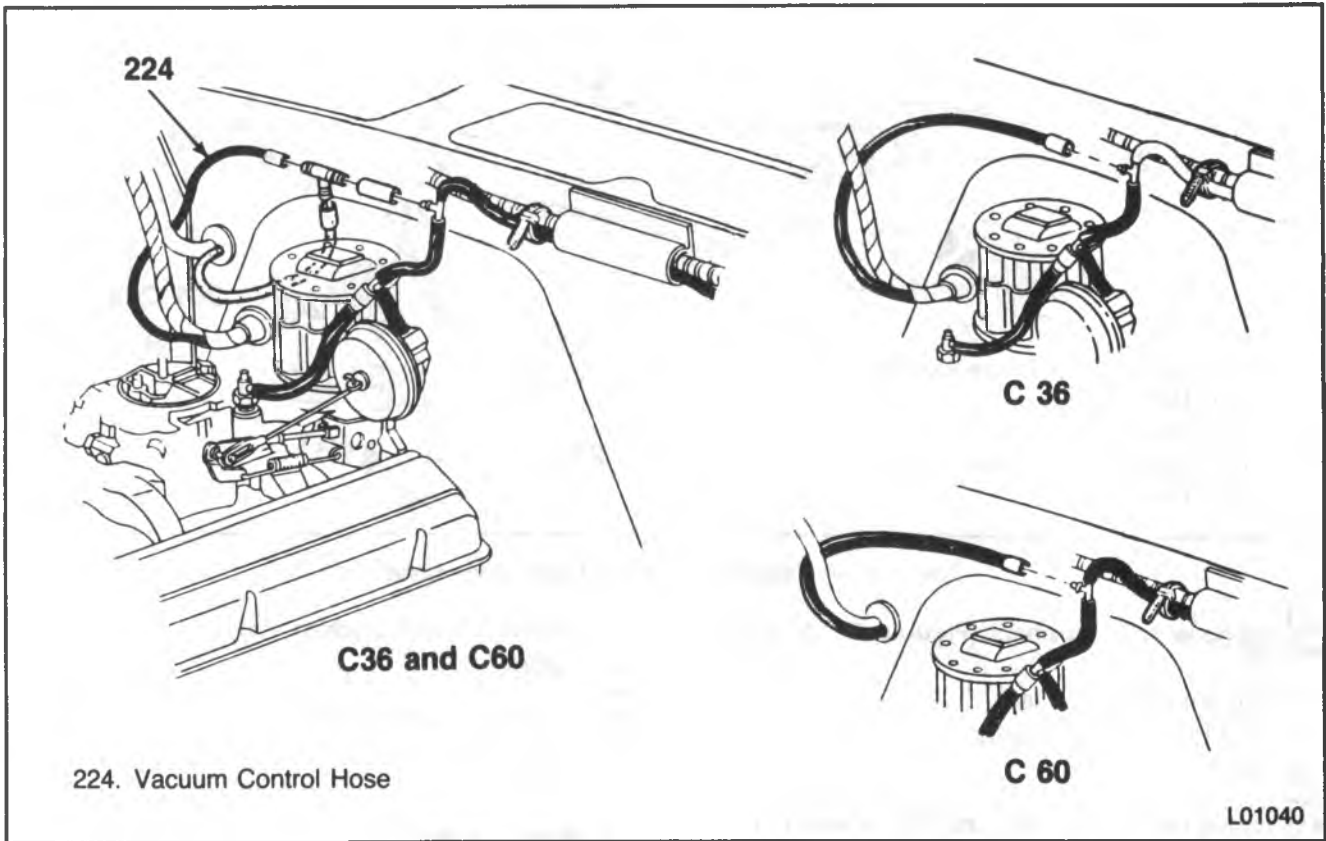

Figure 48 — Vacuum Hose — 5.7L and 7.4L Engine
2. 5.7L and 7.4L engines (figure 48).